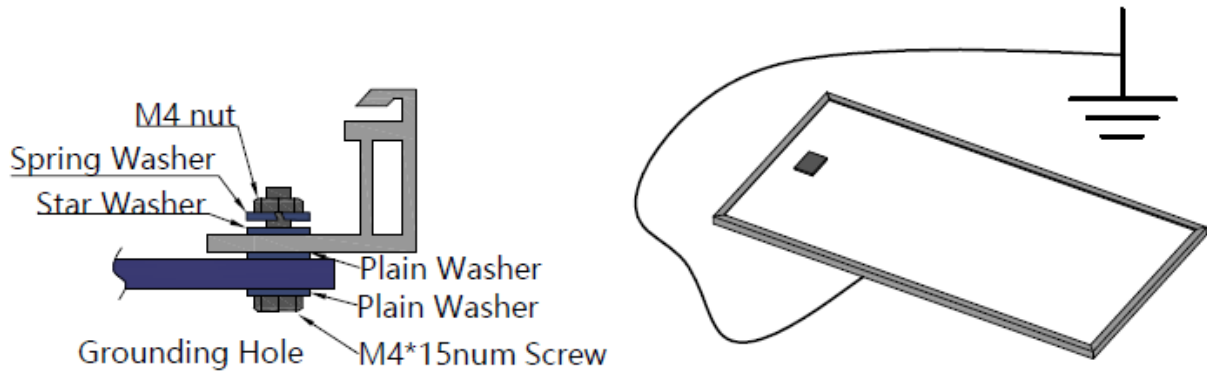

Figure 10: Ground installation of PV modules
- All module frames and mounting racks must be properly grounded in accordance with local and national electrical codes. Attach the equipment grounding conductor to the module frame using the hole and hardware provided. Note that a stainless steel star washer is used between the ground wire and module frame (see Figure 10 below). This washer is used to avoid corrosion due to dissimilar metals. Tighten the screw securely.